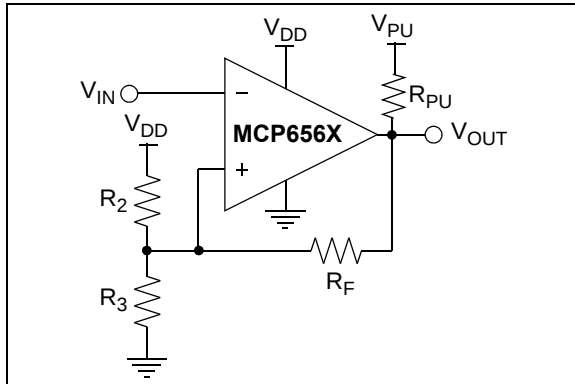
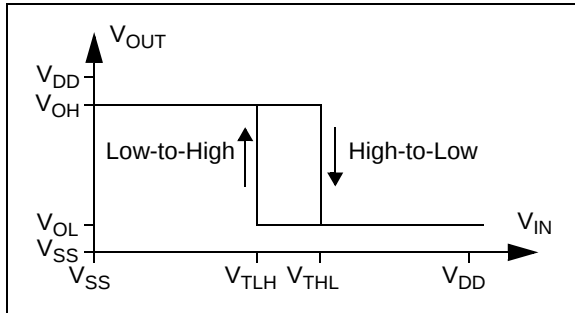
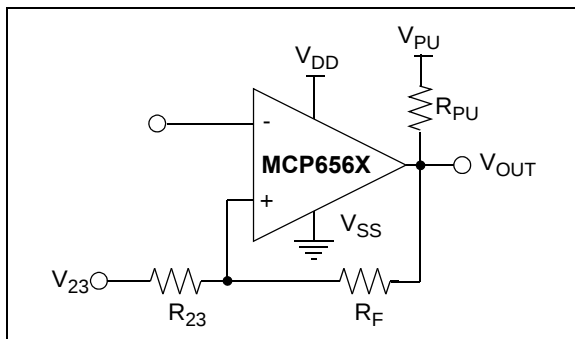

FIGURE 4-6: Inverting Circuit with Hysteresis.
FIGURE 4-7: Hysteresis Diagram for the Inverting Circuit.
FIGURE 4-8: Thevenin Equivalent Circuit.
Figure 4-6 shows an inverting circuit for single-supply using three resistors. The resulting hysteresis diagram is shown in Figure 4-7.
In order to determine the trip voltages (V_{TLH} and V_{TLH}) for the circuit shown in Figure 4-6, R_2 and R_3 can be simplified to the Thevenin equivalent circuit with respect to V_{DD} , as shown in Figure 4-8.
1. Inverting Configuration (Figures 4-6 and 4-9):